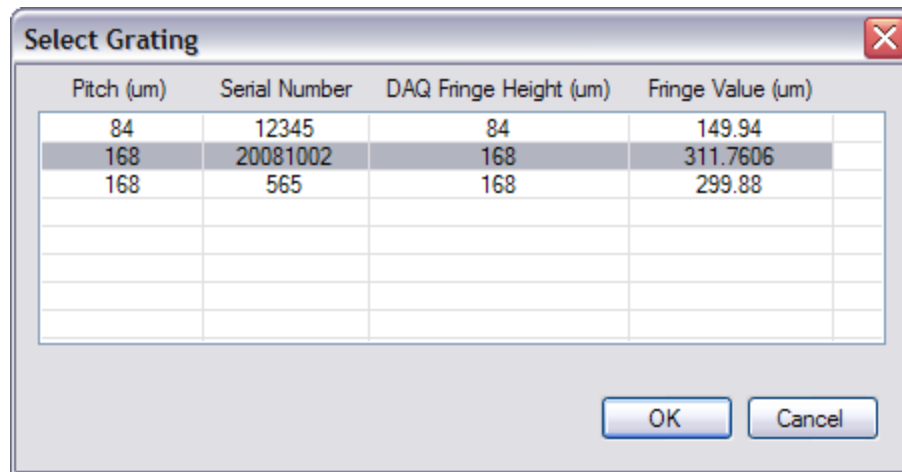

Figure 3.14 Select Grating Window
1. Check that correct grating was selected by clicking on the grating bar located at the bottom left of the information bar. A **Select Grating** window pops up showing a list of gratings added to the system. The desired grating should be highlighted (see **Figure 3.14**).